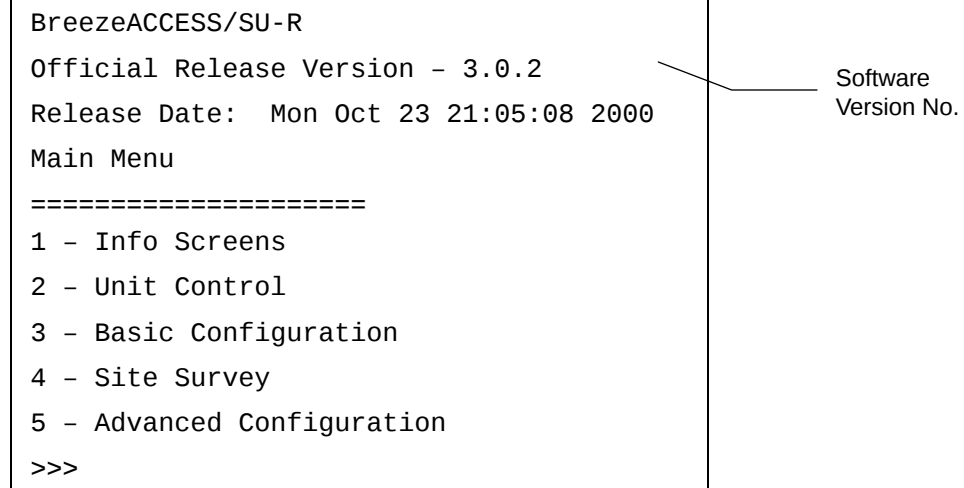

Figure 3-1. Main Menu
3. Press **Enter**. The *Select Access Level* menu appears. Select the access level according to your authorized access level. You will be requested to enter your password. After entering the correct password, press enter. The main menu appears (refer to Figure 3-1).